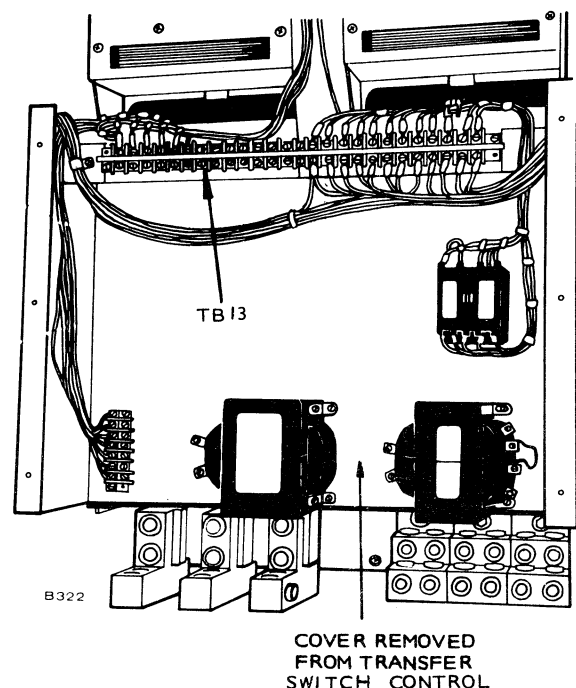

FIGURE 15. LOCATION OF TB13 FOR AUXILIARY CONTACTS CONNECTIONS
5. **Auxiliary Contacts:** There is a 12-place terminal block TB13 (terminal points are marked) for connections to external alarms or control circuitry. Remove the six screws and cover from the transfer switch control (Figure 15). TB13 is located directly below the transfer switch motor mechanism. Rating of the auxiliary contacts is 15 amperes at 480 volts AC.